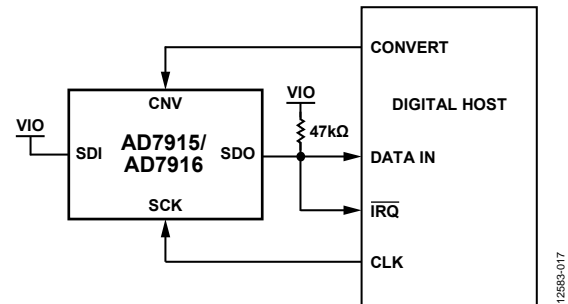
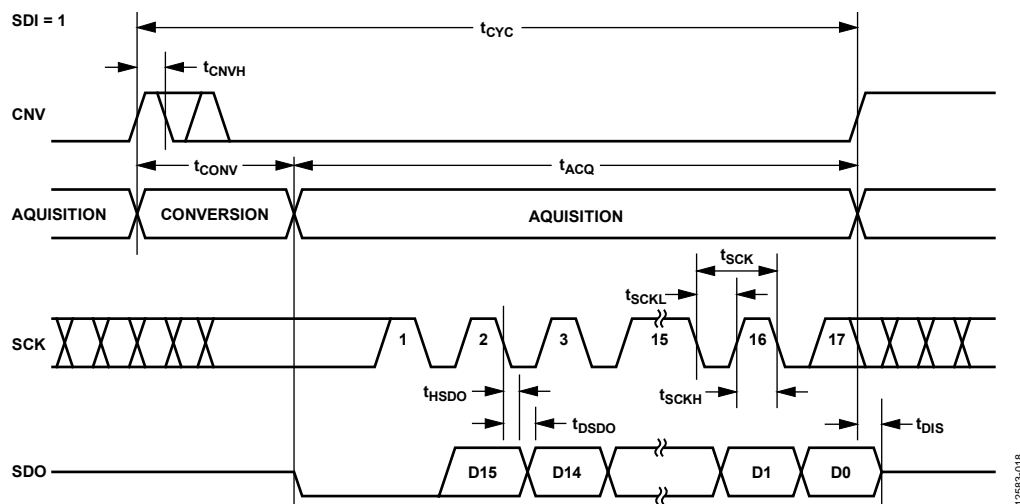
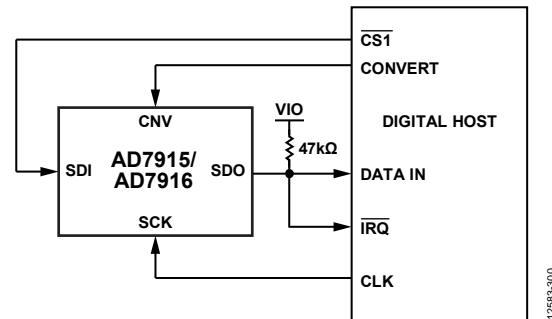
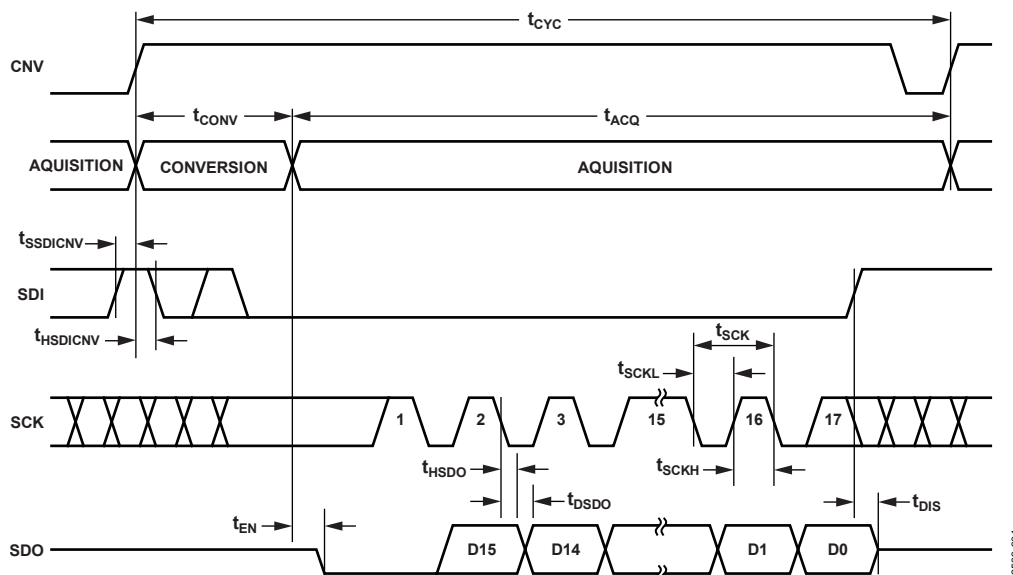

Figure 37. 3-Wire $\overline{\text{CS}}$ Mode with Busy Indicator Connection Diagram (SDI High)
Figure 38. 3-Wire $\overline{\text{CS}}$ Mode with Busy Indicator Serial Interface Timing (SDI High)
Figure 41. 4-Wire $\overline{\text{CS}}$ Mode with Busy Indicator Connection Diagram
Figure 42. 4-Wire $\overline{\text{CS}}$ Mode with Busy Indicator Serial Interface Timing
- in $\overline{\text{CS}}$ mode if CNV or SDI is low when the ADC conversion ends (see Figure 38 and Figure 42).
The connection diagram is shown in Figure 37, and the corresponding timing is given in Figure 38.
The connection diagram is shown in Figure 41, and the corresponding timing is given in Figure 42.